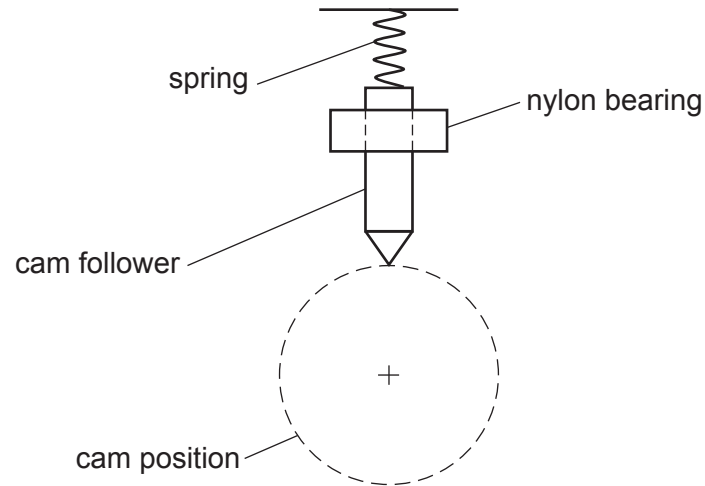

Fig. 10.1
10 (a) Fig. 10.1 shows a cam and follower mechanism.
- (i) Draw a cam on the position shown in Fig. 10.1 to operate the cam follower 4 times for each revolution of the cam. [2]